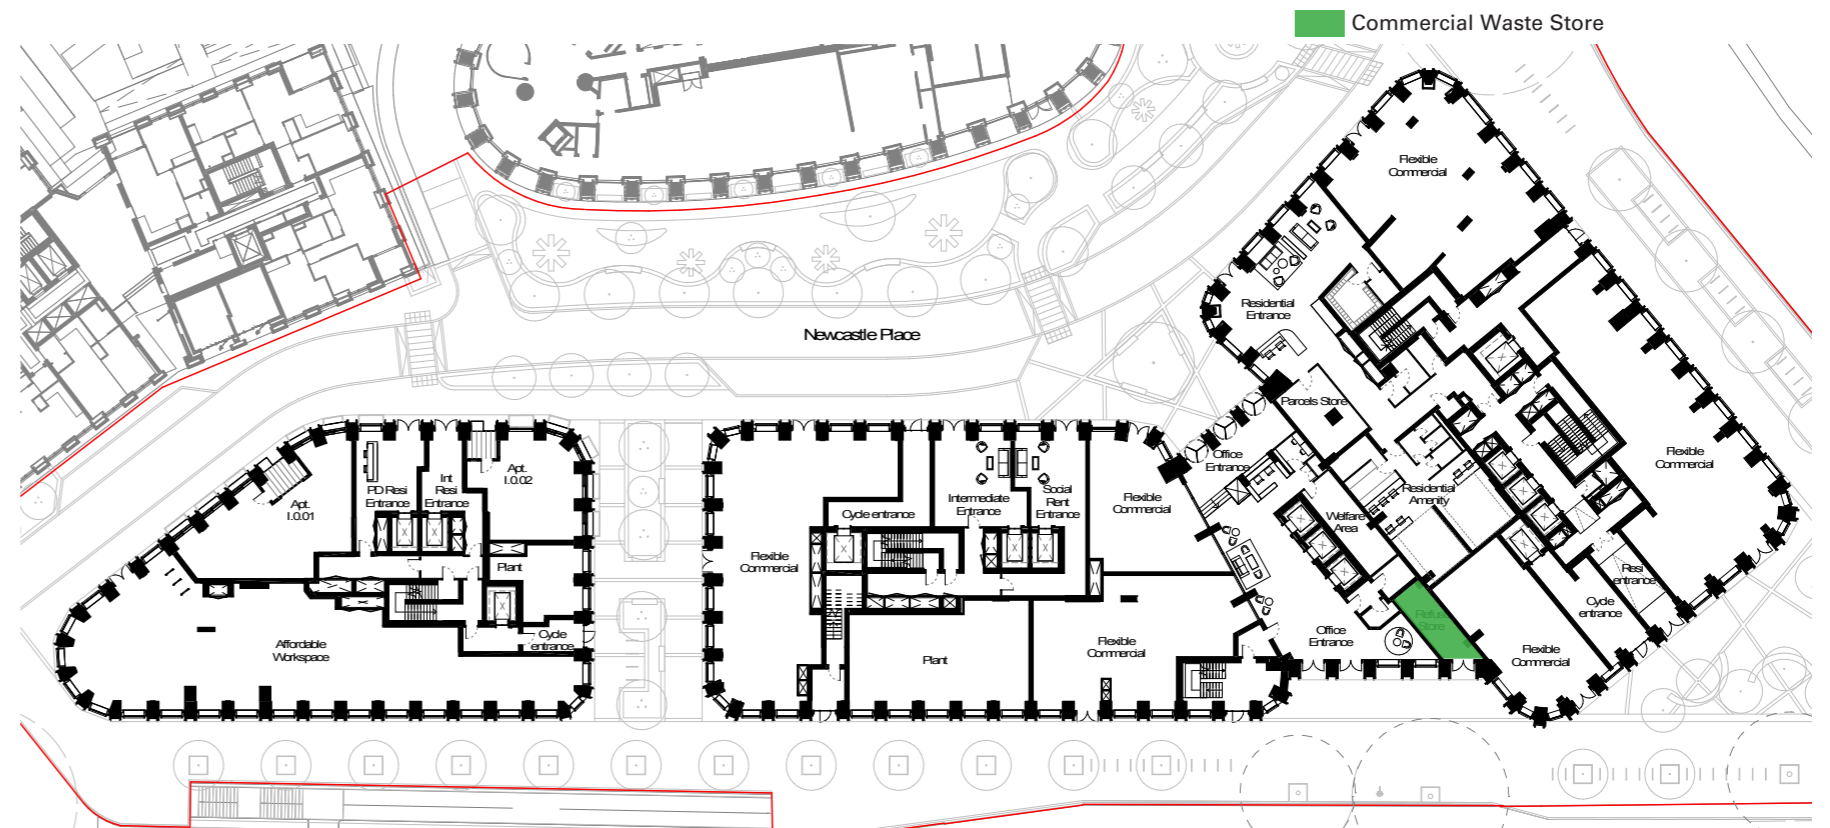

Figure 5.5 - Ground Floor Plan_ Commercial Waste Store Location
5.3.1 It is proposed that the commercial waste store area is located at Ground Floor with daily collection. Figure 5.5 at the following page shows the location of the waste store at ground floor.